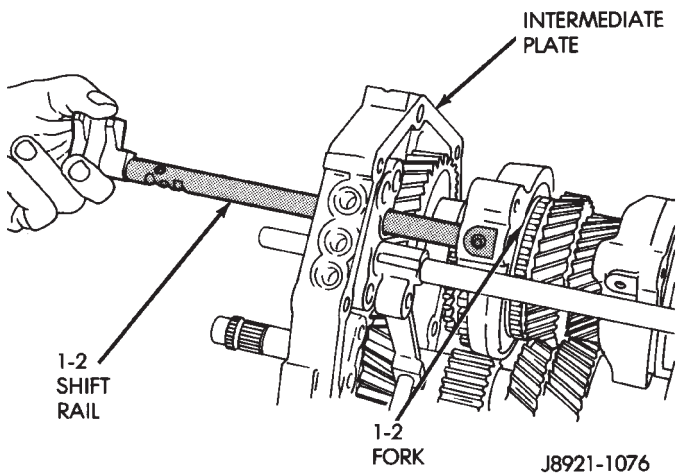

Fig. 92 Installing 1-2 Shift Rail
(8) Install 1-2 shift rail in intermediate plate and 1-2 fork (Fig. 92).